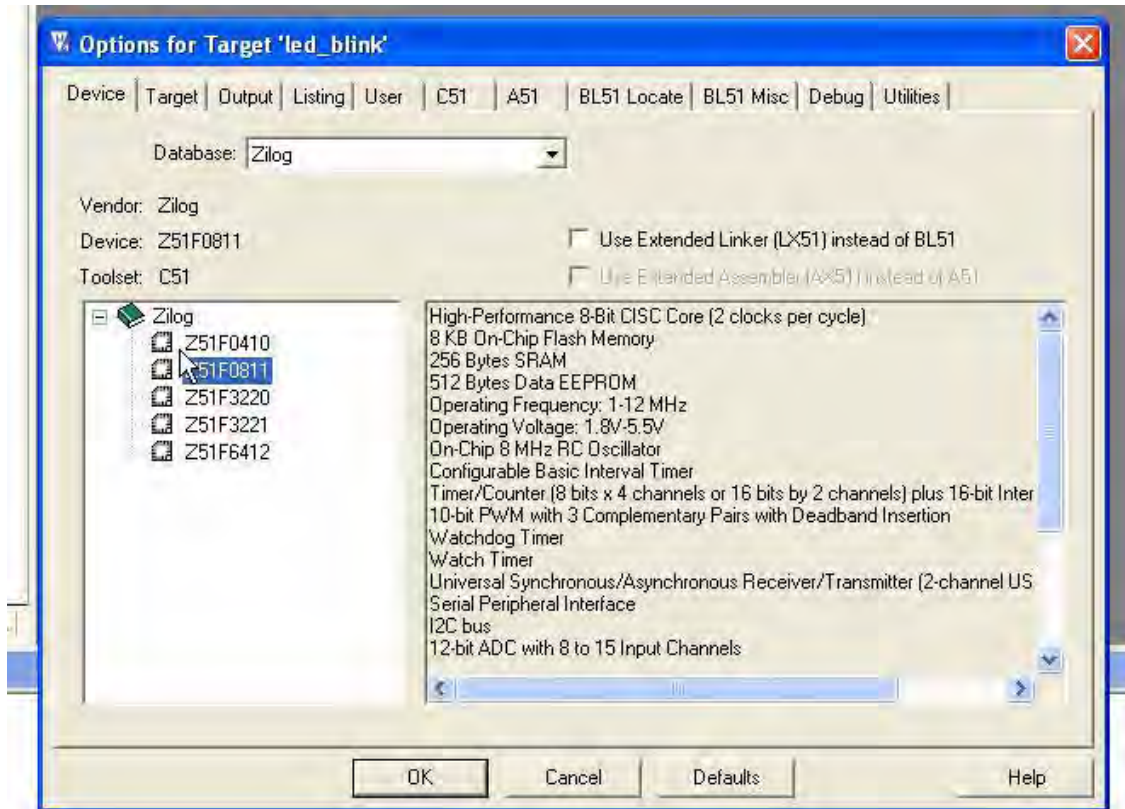

Figure 8. Selecting The Z8051 Part
3. In the left-hand pane, click to expand the list of Zilog parts, as shown in Figure 8. All of the Z8051 Family processors are listed; simply select the pertinent processor with which you will build your application, and click **OK**.